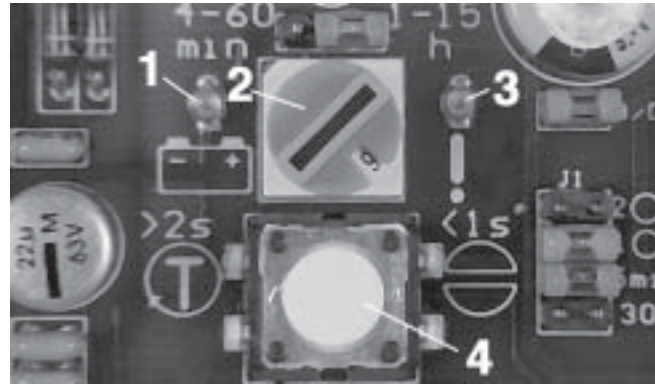

Fig. 14 - LED of the printed circuit board
Note: It is also possible to acknowledge any fault or to trigger an additional lubrication cycle via pushbutton 4 of the printed circuit board (Fig. 14).
*Note: It is also possible to acknowledge/reset a fault or trigger an additional lubrication cycle by means of the pushbutton on the printed circuit board (Fig. 14). For this, press it < 1 second and > 2 seconds. **Condition: The machine contact or driving switch must be switched on.***
- To check whether power is applied to the printed circuit board, observe whether the left-hand LED 1, Fig. 14, is lit.